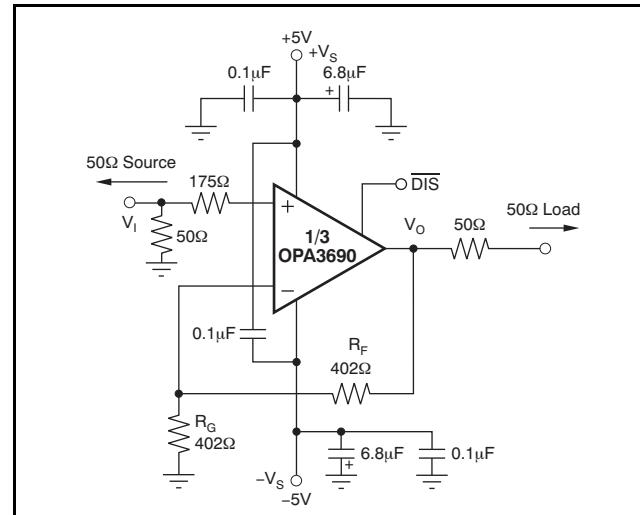

Figure 36. DC-Coupled,  $G = +2$ , Bipolar-Supply Specification and Test Circuit
At  $T_A = +25^\circ\text{C}$ ,  $G = +2$ ,  $R_F = 402\Omega$ , and  $R_L = 100\Omega$  (see Figure 36 for ac performance only), unless otherwise noted.
Figure 36 shows the dc-coupled, gain of +2, dual power supply circuit configuration used as the basis of the  $\pm 5V$  *Electrical Characteristics* and *Typical Characteristics*. For test purposes, the input impedance is set to  $50\Omega$  with a resistor to ground and the output impedance is set to  $50\Omega$  with a series output resistor. Voltage swings reported in the Electrical Characteristics are taken directly at the input and output pins, while output powers (dBm) are at the matched  $50\Omega$  load. For the circuit of Figure 36, the total effective load will be  $100\Omega \parallel 804\Omega$ . The disable control line is typically left open for normal amplifier operation. Two optional components are included in Figure 36. An additional resistor ( $100\Omega$ ) is included in series with the noninverting input. Combined with the  $25\Omega$  dc source resistance looking back towards the signal generator, this gives an input bias current cancelling resistance that matches the  $125\Omega$  source resistance seen at the inverting input (see the *DC Accuracy and Offset Control* section). In addition to the usual power-supply decoupling capacitors to ground, a  $0.1\mu F$  capacitor is included between the two power-supply pins. In practical printed circuit board (PCB) layouts, this optional-added capacitor will typically improve the 2nd-harmonic distortion performance by 3dB to 6dB.
A good rule of thumb is to target the parallel combination of  $R_F$  and  $R_G$  (see Figure 36) to be less than approximately  $125\Omega$ . The combined impedance  $R_F \parallel R_G$  interacts with the inverting input capacitance, placing an additional pole in the feedback network and thus, a zero in the forward response. Assuming a  $3\text{pF}$  total parasitic on the inverting node, holding  $R_F \parallel R_G < 125\Omega$  will keep this pole above  $400\text{MHz}$ . By itself, this constraint implies that feedback resistor  $R_F$  can increase to several  $\text{k}\Omega$  at high gains. This is acceptable as long as the pole formed by  $R_F$  and any parasitic capacitance appearing in parallel is kept out of the frequency range of interest.
Voltage-feedback op amps exhibit decreasing closed-loop bandwidth as the signal gain is increased. In theory, this relationship is described by the Gain Bandwidth Product (GBP) shown in the Electrical Characteristics. Ideally, dividing GBP by the noninverting signal gain (also called the Noise Gain, or NG) will predict the closed-loop bandwidth. In practice, this only holds true when the phase margin approaches  $90^\circ$ , as it does in high gain configurations. At low gains (increased feedback factors), most amplifiers will exhibit a more complex response with lower phase margin. The OPA3690 is compensated to give a slightly peaked response in a noninverting gain of 2 (see Figure 36). This results in a typical gain of +2 bandwidth of  $220\text{MHz}$ , far exceeding that predicted by dividing the  $300\text{MHz}$  GBP by 2. Increasing the gain will cause the phase margin to approach  $90^\circ$  and the bandwidth to more closely approach the predicted value of (GBP/NG). At a gain of +10, the  $30\text{MHz}$  bandwidth shown in the Electrical Characteristics agrees with that predicted using the simple formula and the typical GBP of  $300\text{MHz}$ .
The frequency response in a gain of +2 may be modified to achieve exceptional flatness simply by increasing the noise gain to 2.5. One way to do this, without affecting the +2 signal gain, is to add an  $453\Omega$  resistor across the two inputs in the circuit of Figure 36. A similar technique may be used to reduce peaking in unity-gain (voltage follower) applications. For example, by using a  $402\Omega$  feedback resistor along with a  $402\Omega$  resistor across the two op amp inputs, the voltage follower response will be similar to the gain of +2 response of Figure 37. Reducing the value of the resistor across the op amp inputs will further limit the frequency response due to increased noise gain.
Since the OPA3690 is a general-purpose, wideband voltage-feedback op amp, all of the familiar op amp application circuits are available to the designer. Inverting operation is one of the more common requirements and offers several performance benefits. Figure 47 shows a typical inverting configuration where the I/O impedances and signal gain from Figure 36 are retained in an inverting circuit configuration.
The second major consideration, touched on in the previous paragraph, is that the signal source impedance becomes part of the noise gain equation and influences the bandwidth. For the example in Figure 47, the  $R_M$  value combines in parallel with the external 50Ω source impedance, yielding an effective driving impedance of  $50\Omega \parallel 66.5\Omega = 28.5\Omega$ . This impedance is added in series with  $R_G$  for calculating the noise gain (NG). The resultant NG is 2.76 for Figure 47, as opposed to only 2 if  $R_M$  could be eliminated as discussed above. The bandwidth will therefore be slightly lower for the gain of –2 circuit of Figure 47 than for the gain of +2 circuit of Figure 36.
The OPA3690 provides good distortion performance into a  $100\Omega$  load on  $\pm 5V$  supplies. Relative to alternative solutions, it provides exceptional performance into lighter loads and/or operating on a single  $+5V$  supply. The distortion plots show which changes in operation will improve distortion. Increasing the load impedance improves distortion directly. Remember that the total load includes the feedback network; in the noninverting configuration (see Figure 36), this is sum of  $R_F + R_G$ , while in the inverting configuration (see Figure 46) it is just  $R_F$ . Also, providing an additional supply-decoupling capacitor ( $0.1\mu F$ ) between the supply pins (for bipolar operation) improves the 2nd-order distortion slightly (3dB to 6dB).